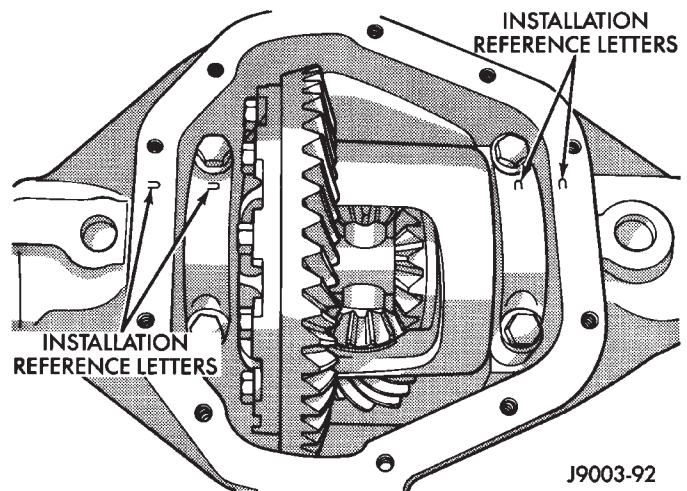

Fig. 23 Bearing Cap Identification
- (1) Raise and support vehicle.
- (2) Remove the lubricant fill hole plug from the differential housing cover.
- (3) Remove the differential housing cover and allow fluid to drain.
- (4) Remove axle shafts.
- (5) Note the installation reference letters stamped on the bearing caps and housing machined sealing surface (Fig. 23).
- (6) Loosen the differential bearing cap bolts.